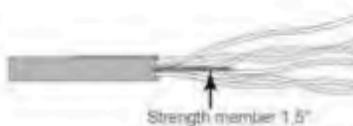

Figure 2
7. Cut the strength member(s) 1.5" from the ring cut. (Fig. 2)